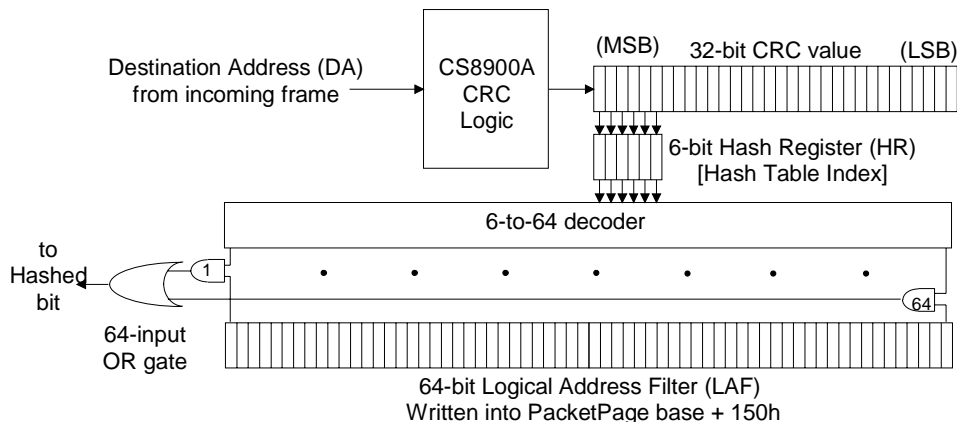

Figure 23. Hash Filter Operation
See Figure 23. The DA of the incoming frame is passed through the CRC logic, generating a 32-bit CRC value. The six most-significant bits of the CRC are latched into the 6-bit hash register (HR). The contents of the HR are passed through a 6-to-64 decoder, asserting one of the decoder's outputs. The asserted output is compared with a corre-